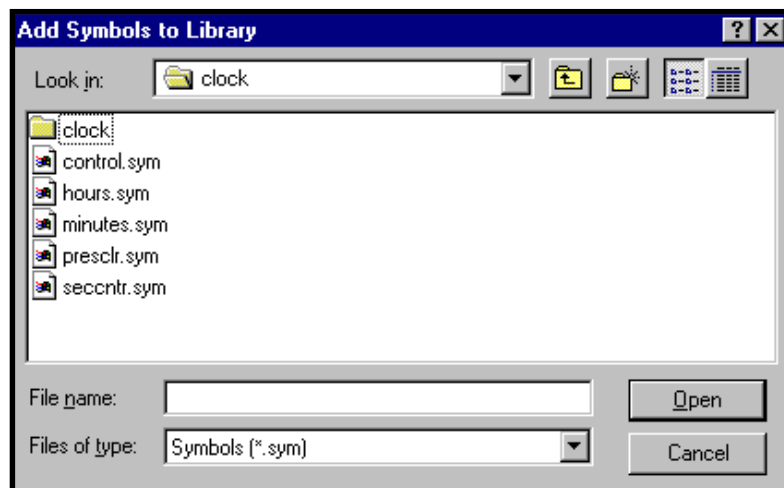

Figure 6-3. Add Symbols to Library Dialog Box
2. Select **Edit** ⇒ **Add Symbol(s)**. The Add Symbols to Library dialog box appears (Figure 6-3).